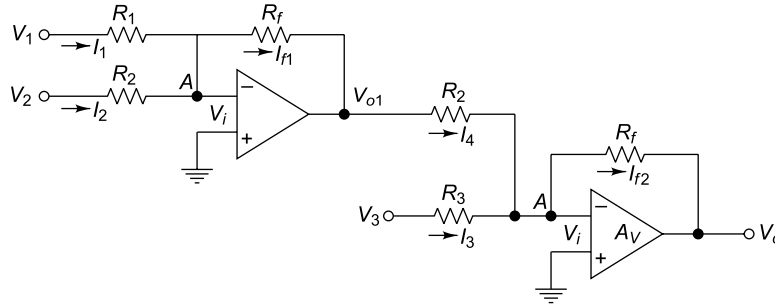

Fig. 5.22 Circuit of Ex. 5.11
5.11 Derive the expression of output voltage V_o for the operational amplifier circuit as shown in Fig. 5.22. Assume $R_1 = 10 \text{ k}\Omega$, $R_2 = 5 \text{ k}\Omega$, $R_3 = 10 \text{ k}\Omega$ and $R_f = 10 \text{ k}\Omega$.